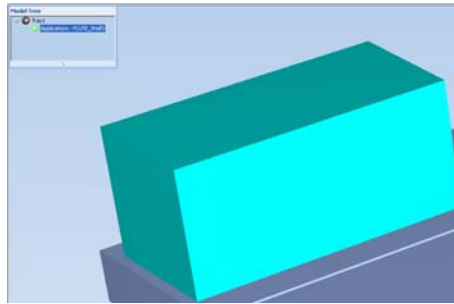

Figure 5-54: Model displayed with bounding box
- With a *Bounding Box* (see figure 5-54 on page 40)